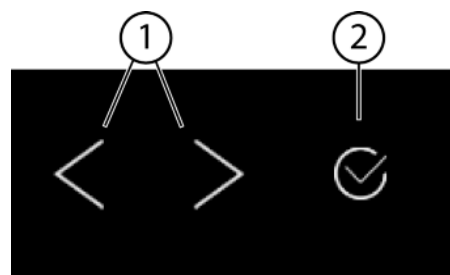
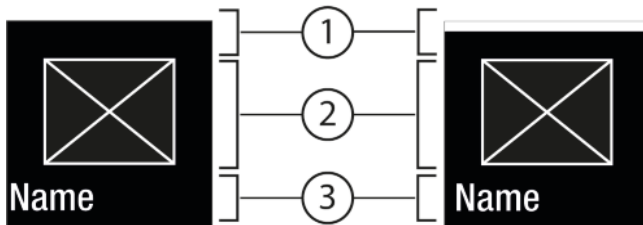
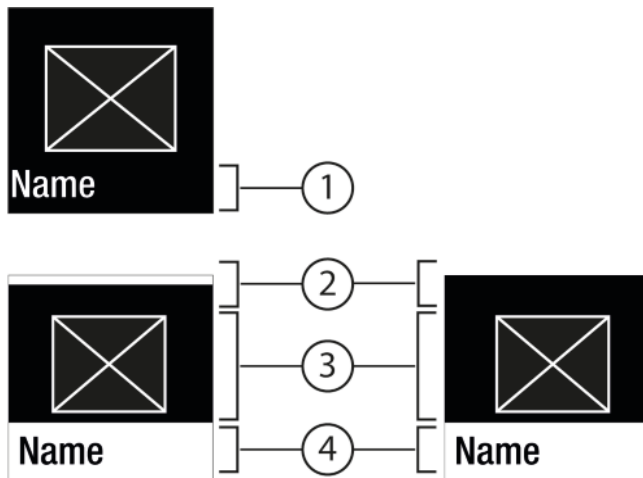

Fig. 5
Fig. 6
Fig. 7
Navigation arrow left/right Fig. 5 (1):
Confirm Fig. 5 (2):
- Press the left/right Fig. 5 (1) arrow to navigate.
- Press Confirm Fig. 5 (2) to activate Fig. 6 (1) / deactivate Fig. 6 (1) the function.
- Press Confirm Fig. 5 (2) to open the submenu Fig. 7 (4).
- Set a new value: Press Confirm Fig. 5 (2) to select an active value Fig. 6 (1).
- Back to the menu: Press Confirm Fig. 5 (2) to select the active value Fig. 6 (2).
▶ Press the navigation arrows Fig. 5 (1) until the appears.
▶ Press Confirm Fig. 5 (2).
- ▶ Press the navigation arrows *Fig. 5 (1)* until the function appears.
- ▶ Press Confirm *Fig. 5 (2)*.
- ▶ Press the navigation arrows *Fig. 5 (1)* to select the setting value.
- ▷ Status: On *Fig. 6 (1)* appears briefly in the submenu *Fig. 7 (4)*.
- ▶ Press the navigation arrows *Fig. 5 (1)* until Settings appears.
- ▶ Press the navigation arrows *Fig. 5 (1)* until you see the setting you want.
- ▶ To Confirm *Fig. 5 (2)*, press for 3 seconds.